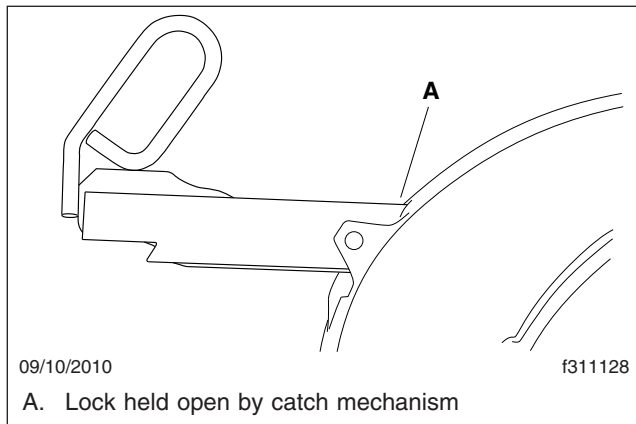

Fig. 18.7, Jost Release Handle Unlocked
2. Open the kingpin locks. See Fig. 18.7.
- 6.3 **Jost:** Pull the retractable handle out, then secure it in the open position with the catch. See Fig. 18.7.